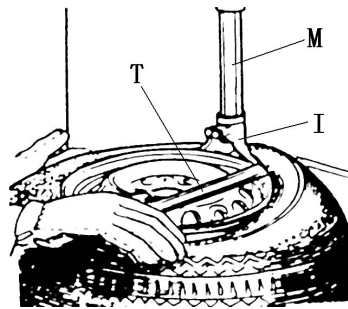

Fig 6
Lower the Vertical Arm (M) until the Mounting /demounting head (I) reaches the edge of the rim, depress pneumatic locking button (K) to lock the Vertical Arm (M) and Horizontal arm in position, and make sure the gap between Mounting /demounting head and the edge of rim is 2-3 mm. Insert the Lifting Lever (T) between the tyre bead and front of the mounting /demounting head (I), and lift the tyre bead upon front knob of mounting/demounting head (Fig 6)